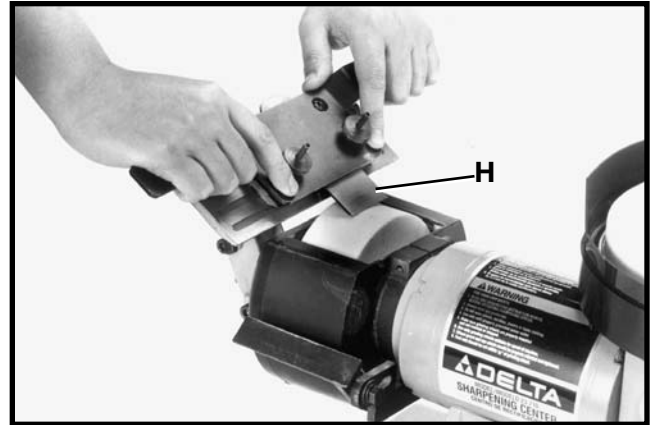

Fig. 36
4. Figure 36, illustrates a rough grinding operation on a plane iron (H) using the dry wheel.